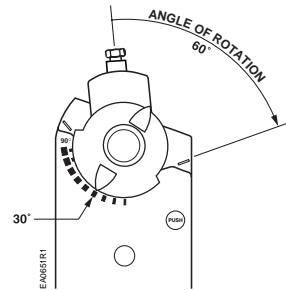

Figure 19. Mechanical Range Adjustment.
5. Remove the shaft adapter and insert it with the position indicator pointing to the mark on the scale calculated in the previous step. See Figure 19.